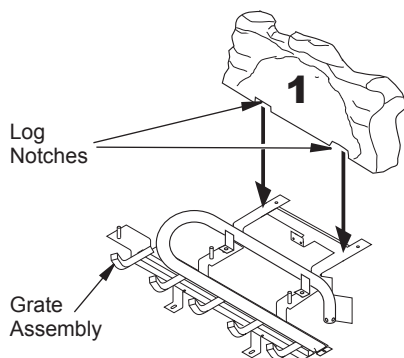

Figure 29 - Installing Log No. 1
1. Find and place log #1 (rear log) on top of grate. Make sure notches in bottom of log fit over grate (see Figure 29).